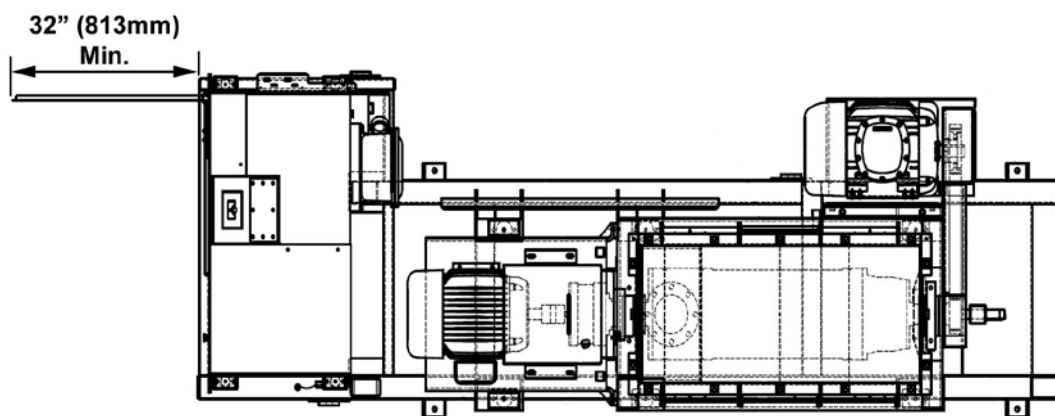

Figure 3-1 Required Control Cabinet Door Clearance
2. Open and close the control cabinet door (Figure 3-1).